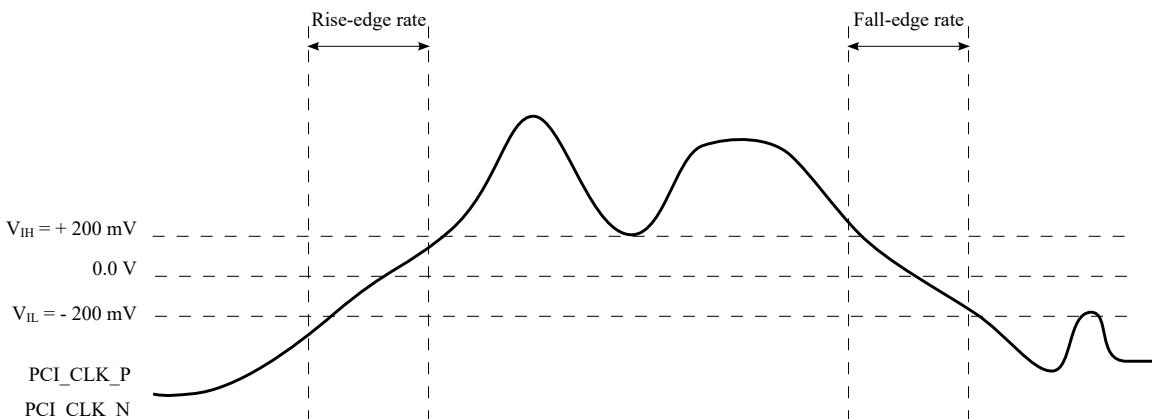

Figure 22. Differential measurement points for rise and fall time
9. Measured from -200 mV to +200 mV on the differential waveform (derived from PCI_CLK_P minus PCI_CLK_N). The signal must be monotonic through the measurement region for rise and fall time. The 400 mV measurement window is centered on the differential zero crossing. See Figure 22.